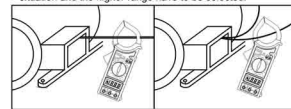

Fig1
1. Set the rotary switch at desired A – range position. Press the trigger to open the transformer jaws and clamp onto one conductor only (Fig.1). The transformer jaws pick up the AC current flowing through the conductor.